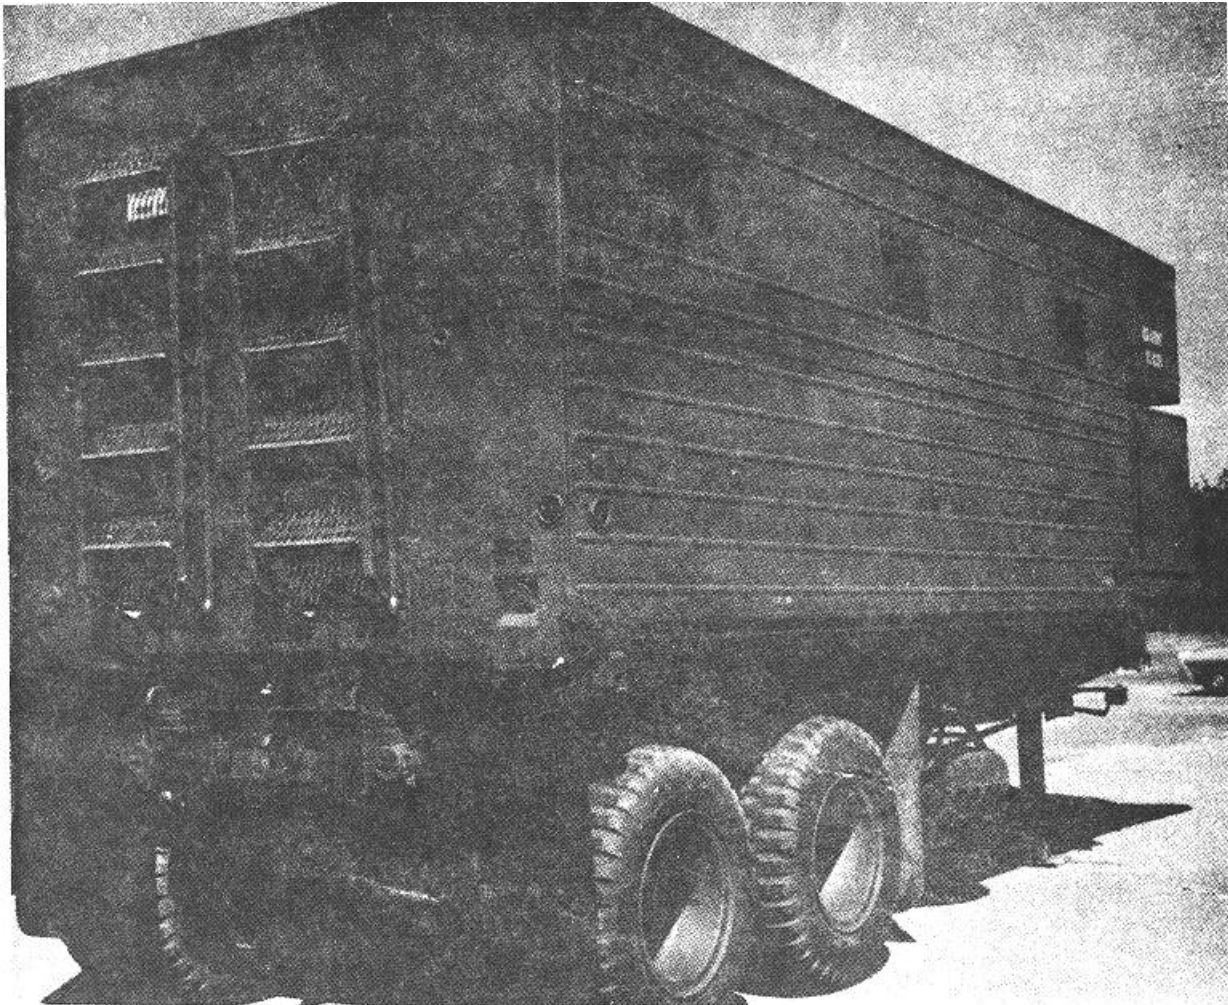

Figure 1. Shop Set C-9, Propeller and Rotor Shop.
*b. Identification.* Identification and instruction markings are listed in figures 1, 2, and 3.